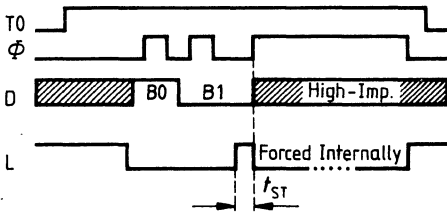
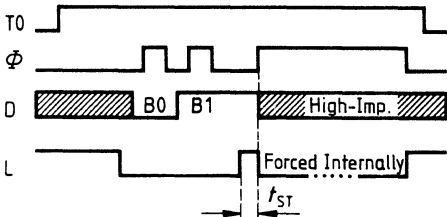

Figure 2b
Figure 2c
b) Erasure of entire NVM (fig. 2b)**Writing into entire NVM (fig. 2c)**